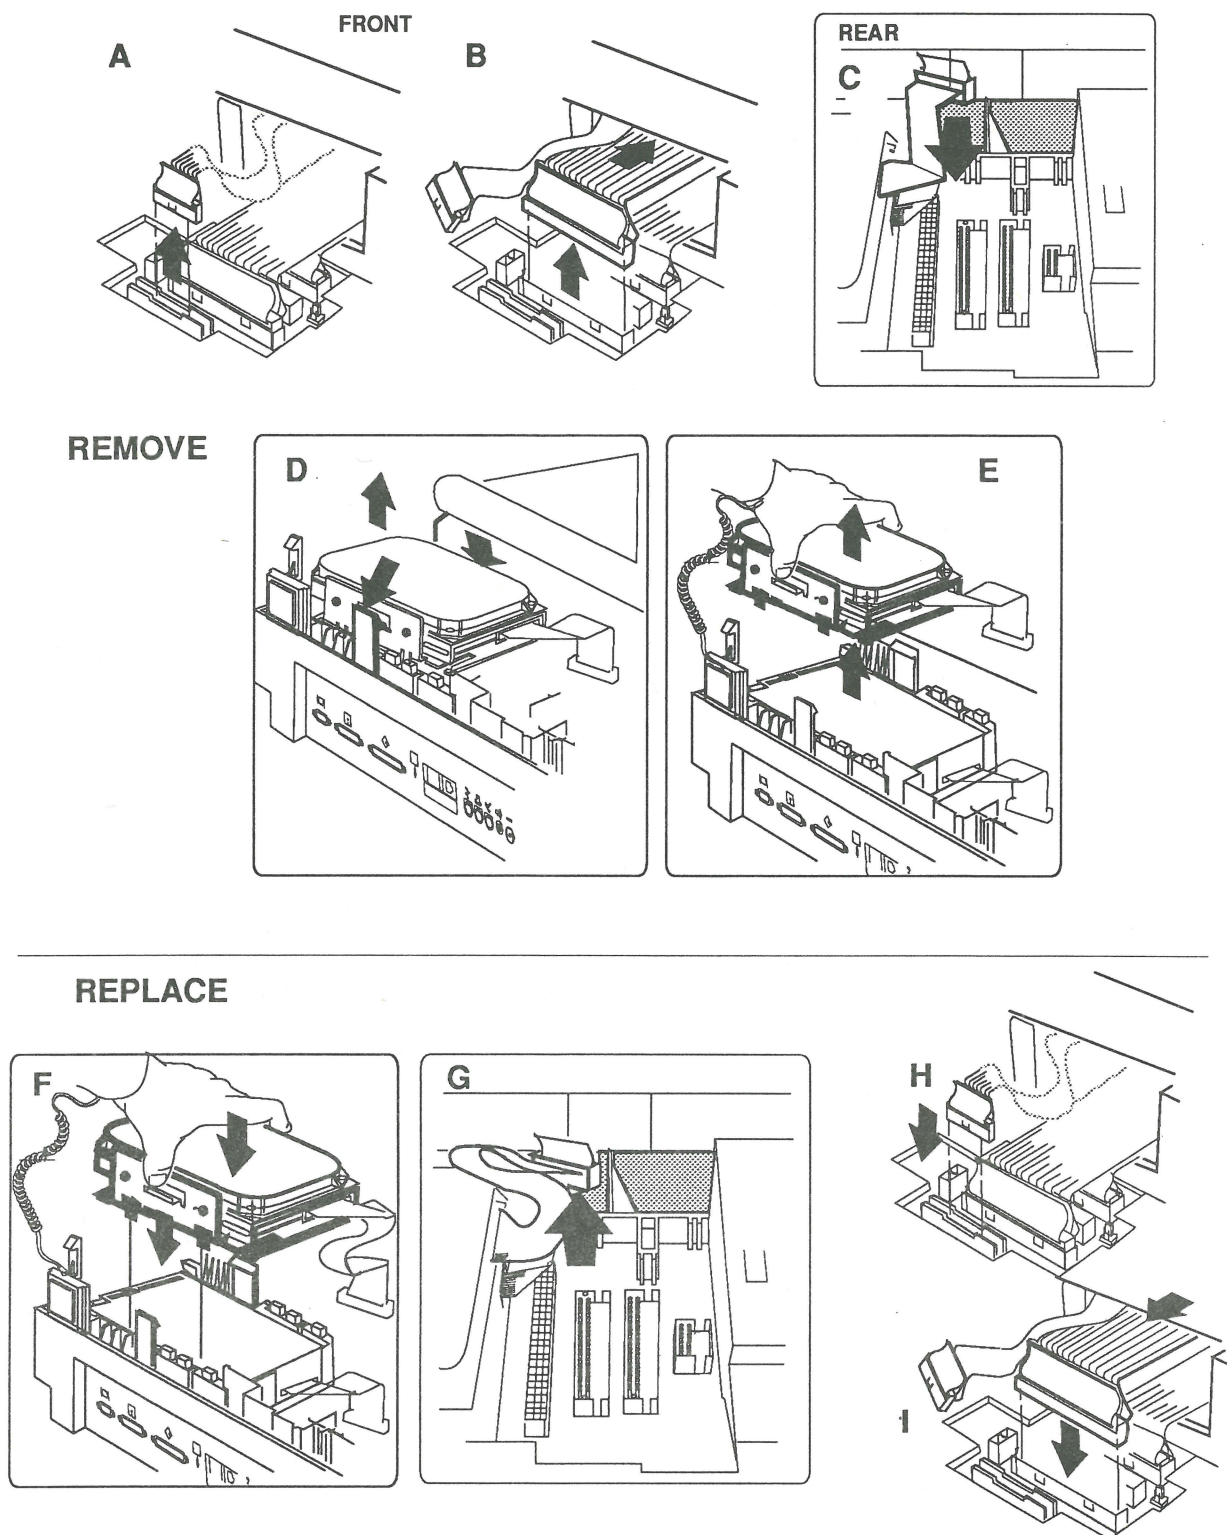

FIGURE 6
3. **Figures 6-A and 6-B.** Disconnect the display and hard disk drive cables from logic board connectors J19 and J18.
4. **Figure 6-C.** Close the display and slide the disk drive cable out toward the rear of the computer.
5. **Figure 6-D and 6-E.** Unsnap the plastic latches at the front and rear of the hard disk drive. Lift up and remove the hard disk from the subframe.
2. **Figure 6-F.** Lower the hard drive into the subframe, align the four metal tabs, and press down until the plastic latches at the front and rear snap in place.
3. **Figure 6-G.** Slide the hard disk drive cable through the opening under the display assembly.
4. **Figure 6-H and 6-I.** Connect the hard drive cable and display cable to logic board connectors J18 and J19.